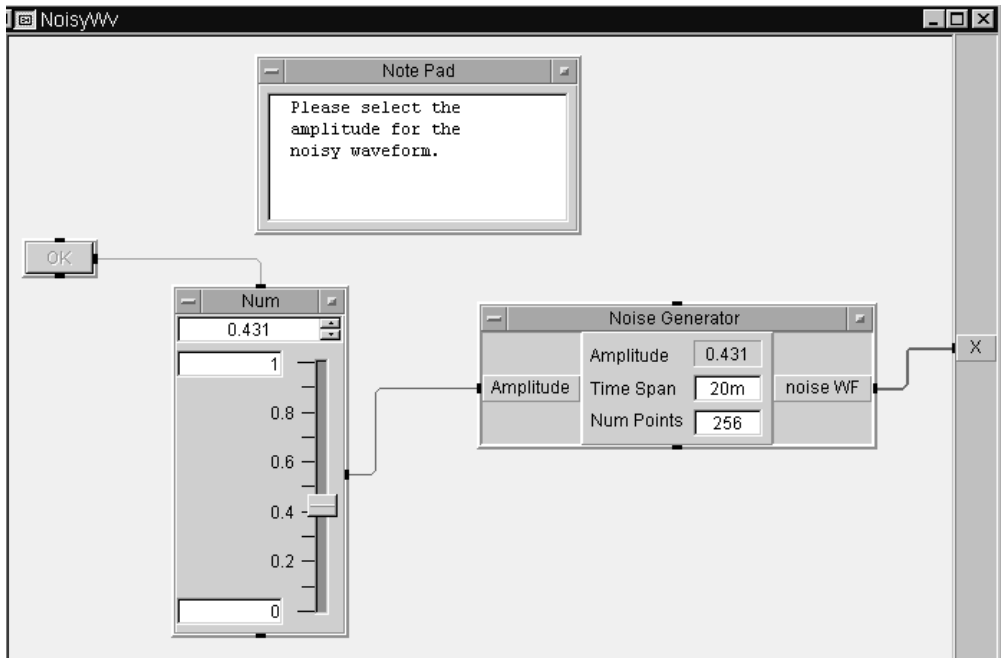

Figure 15.11. The NoisyWv Waveform UserFunction detail view
2. Create the UserFunction called noisyWv shown in Figure 15.11.